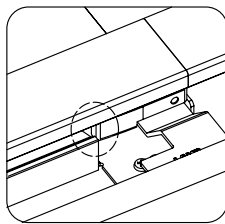

Fig.9-2
| | Doors do not slide (or not smoothly) | Door bracket ③ hits the inside of the upper rail ① (Fig. 9-2) | ⇒ | Check that both upper rail ① and lower rail ② are tightly fastened. | Screw both rails tightly. |